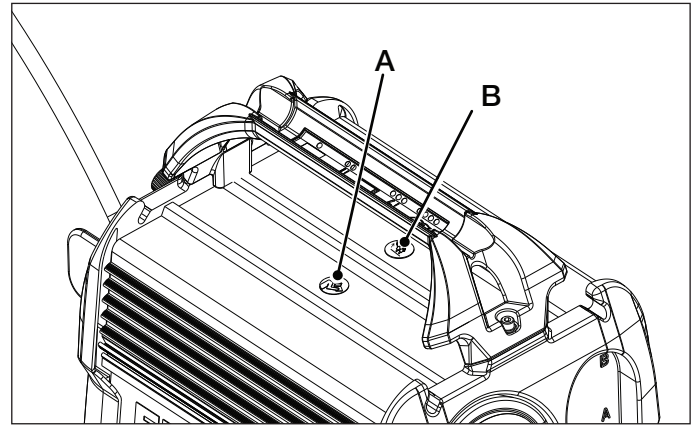

Figure 1, Locations of Safety Hazard Alert Symbols
**Read instructions:** Read the product instruction sheet before operating the product and before performing any inspection, adjustment, maintenance or repair procedures. (Figure 1, item A)
**Disconnect Electrical Power:** To avoid the possibility of a dangerous and potentially lethal electrical shock, disconnect pump power cord from AC electrical power supply before opening the pump case. (Figure 1, Item B)
Make sure the safety hazard alert symbols are legible and securely affixed to the pump. If worn or missing, obtain replacements from Enerpac. Refer to Figure 1 for locations